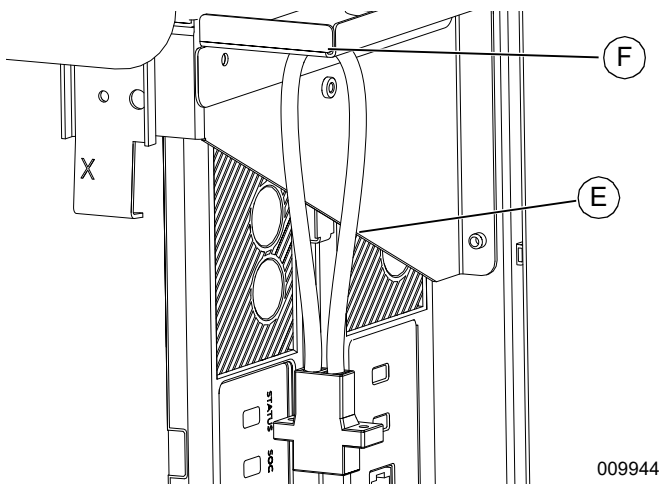

Figure 4-36. Unused Loop Jumpers
- See Figure 4-36. Tie unused loop jumpers (E) to wiring chase baffle slot (F) for future use.